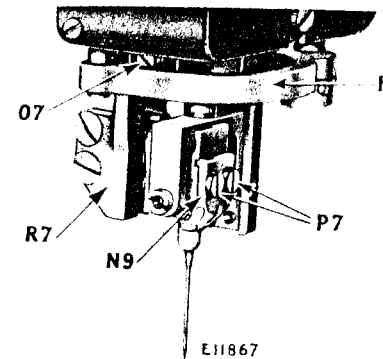
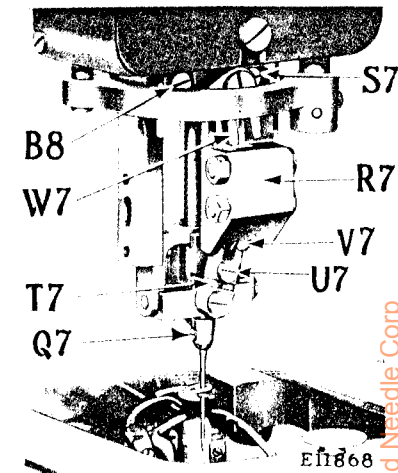

Fig. 12. Needle Vibrating Mechanism
Fig. 13. Needle Vibrating Mechanism Showing Adjustments for Regulating Width of Bight and Cutting Space
The needle vibrating mechanism is actuated by means of a cam on the upright shaft. When this shaft starts to rotate, the cam moves the connecting rod (F, Fig. 2) back and forth, causing it to rock the bell crank (J, Fig. 2) which in turn moves the link (K, Fig. 2) up and down, carrying with it the reciprocating rod (M, Fig. 2) which has the vibrating ring (H, Figs. 2 and 12) attached to its lower end. As the vibrating ring moves up and down, it swings the needle vibrating switch (W7, Fig. 13) sideways, causing the roller (V7, Fig. 13) to be switched from one
groove to the other in the gauge plate (R7, Fig. 13). The roller (V7) is mounted upon the needle bight adjusting lever (T7, Fig. 13) which in turn is mounted on the bridge of the needle bar so that when the roller is switched in the grooves of the gauge plate (R7), the needle is vibrated from side to side.
To ascertain the alignment of the needle, loosen the needle holder clamping screws (P7, Fig. 12) and slide the needle holder so that the left hand edge is flush with the corresponding edge
of the needle holder slide, as shown at N9 in Fig. 12, and tighten the screws. Inspect the straightness of the needle and replace if necessary. Now clamp a piece of light card under the clamp checks, raise the work clamp carrier side throw lever lock pin (B6, Fig. 9) up and out of the pattern wheel (U5, Fig. 9) and then with wrench on pattern wheel clamping nut (S5, Fig. 9), turn the machine up the first side of buttonhole, at the same time making a row of light punctures in the card with the needle on the slit or central vibration. Continue up and around the eye. The needle point, while coming down the last side of the buttonhole, should exactly enter the card in the first line of punctures. If the two lines do not coincide, it will be necessary to adjust the gauge plate (R7, Fig. 13) to the right or left as may be required.
While the machine is still on the last side of the buttonhole with the gauge plate (R7) towards you, move the needle vibrating ring (H, Fig. 12) to its lowest point, then loosen the two screws (S7 and B8, Fig. 13) and turn the adjusting screw (O7, Fig. 12) to bring the two lines of needle punctures in line with each other, then tighten the two screws (S7 and B8).
Turn the machine by hand and note the movement of the roller (V7, Fig. 13) as it passes from the slot of the gauge plate (R7) into the needle vibrating switch (W7, Fig. 13) and then from the switch (W7) back into the second slot of the gauge plate (R7). Should the roller drag upon the side wall of the gauge plate or switch, it will be necessary to change the length of the rod (F, Fig. 2). After making adjustments of the rod (F), the lock nuts (E and G, Fig. 2) should be tightened.
Having followed the instruction for aligning the needle, again clamp a piece of light card under the clamp checks, raise the work clamp carrier side throw lever lock pin (B6, Fig. 9) up and out of the pattern wheel (U5, Fig. 9) and then with wrench on pattern wheel clamping nut (S5, Fig. 9), turn the machine up the first side of the buttonhole, at the same time making a row of light punctures in the card with the needle on the slit or central vibration. While on the first side of the buttonhole, loosen the needle holder clamping screws (P7, Fig. 12) and slightly adjust the needle holder to the left. The needle, while coming down the last side of the buttonhole, should enter the card about .006 inch to the right of the first line of punctures. This distance may have to be changed according to the thickness and textures of the material being sewn, as the heavier grades of materials require more cutting space than the lighter fabrics and, therefore, a greater distance between the two parallel lines of needle punctures may be required.
To Regulate the Width of Bight. The width of bight or stitch is regulated by the screw (U7, Fig. 13). To increase the width
To replace the looper frame (W) make sure that the machine is in the same position as referred to in the preceding paragraph with the needle bar gauge plate (R7, Fig. 12) turned towards the rear of the machine. Turn the stitch forming mechanism in the looper frame (W) so that the post for the throat plate (12, Fig. 4) is to the front, set the looper driving crank (D2, Fig. 3) with the $\frac{3}{16}$ " hole (E2, Fig. 3) in the flange of crank to the left and slightly below the horizontal position. Carefully guide the rear edge of the chip guard (Q, Fig. 3) between the underside of the lower cutting lever and the top face of the feed wheel, and as the looper frame (W) is gently pushed to the rear, guide it so that its position pins enter the two pin holes and so the fork end of the loop retainer slide (B2, Fig. 3) enters the space between the two adjusting nuts (A2 and C2, Fig. 3) which are locked in position on the loop retainer driving bar (8, Fig. 3). At the same time slightly turn the looper driving crank (D2, Fig. 3) back and
The straightness of the needle bar should be ascertained and corrected if necessary. Remove the upper rear hinge screw for the stitch rotating connection so that the needle mechanism can be manually rotated. Then select a new needle and inspect the trueness of its point by rolling it on its shank on a flat surface. Remove the needle holder and clean off any burrs or dirt which would tip the needle holder on its seat, then replace the needle holder in position, as shown at N9, Fig. 12 (see description "**To Align the Needle**", page 31) and insert the inspected needle. Now firmly hold a piece of paper under the point of the needle and make a slight impression with the needle point, then revolve
the needle bar and note whether the point revolves without describing a circle. Should the needle point describe a circle, it will indicate that either the needle is still bent or that the seat of the needle holder is throwing the needle point. This incorrect condition should be thoroughly corrected as the needle point will be the foundation upon which the looper mechanism will be aligned and timed. After correcting the alignment of the needle point, assemble the upper rotating sector so that when the machine is on the last side of the buttonhole, the needle bar gauge plate (R7, Fig. 12) is exactly positioned squarely to the front and the screw hole on the rear end of the upper stitch rotating connection is directly over the hole on the end of the upper stitch rotating lever, then assemble the hinge screw. **Note that the identification number on the looper bracket frame (W, Fig. 3) agrees with the number on the front edge of the machine bed,** then turn the hand wheel (D, Fig. 2) until the needle moves down alongside of the threaded looper and adjust so that it just touches the blade of the needle. Ratchet the machine to the eye end of the buttonhole and note the relation between the needle and side of the threaded looper as they both revolve. The relative position of each should be maintained during the rotation but should they crowd together or gap open, it will indicate that the looper bracket frame is not correctly seated upon the machine. This condition should be corrected by removing all burrs and dirt from the seats and the dowel pin holes of the looper bracket frame and the machine bed until no further crawl is noted between the threaded looper and the needle. As the machine is on either the first or last side of the buttonhole a greater percentage of time, the looper frame position is vital to the loopers longitudinally and to the loop retainers laterally.